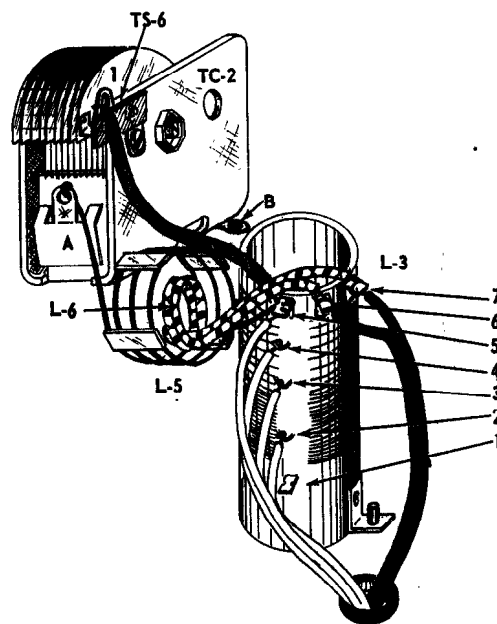

Figure 22.
- ☐ 169. Adjust the wiper tab, which is soldered to lug 1 of tie strip TS-6, to make slight contact with the outside rotor plate of tuning condenser TC-2. Properly adjusted, the tab will continue to make a wiping contact with the rotor plate of the tuning condenser as it is advanced in a clockwise direction from its present position. See Fig. 22. This constitutes the 6 meter tuning portion of the Final Plate tuning condenser.
- ☐ 171. Connect a short U shaped piece of #16 bus wire from pin 6 to pin 7 of the octal plug. (S). Trim the excess wire and solder from the plug pins and reinsert the plug into socket SO-6.